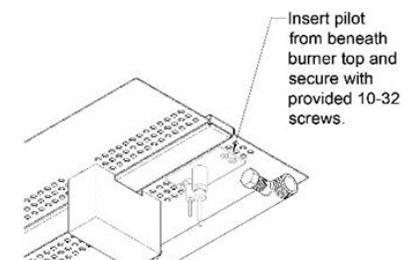

FIGURE 51
- 11) Insert the pilot assembly from underneath the existing burner pan to the area of the removed burner section. **(Figure 51)**